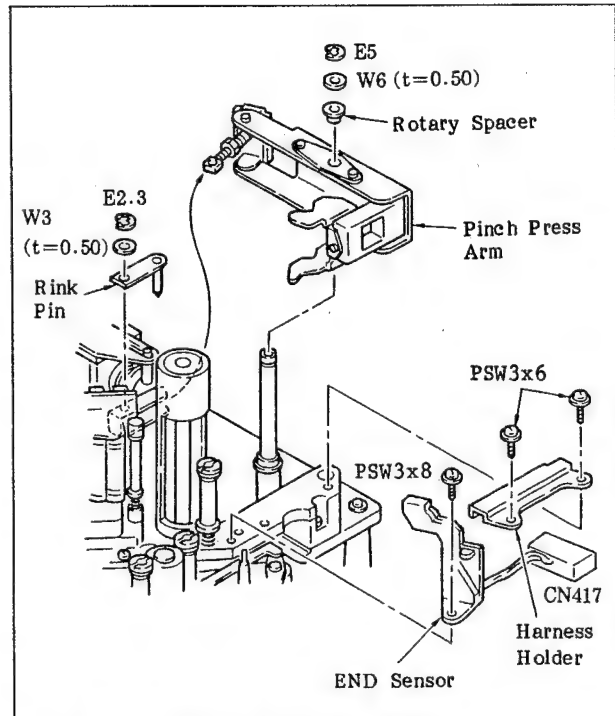
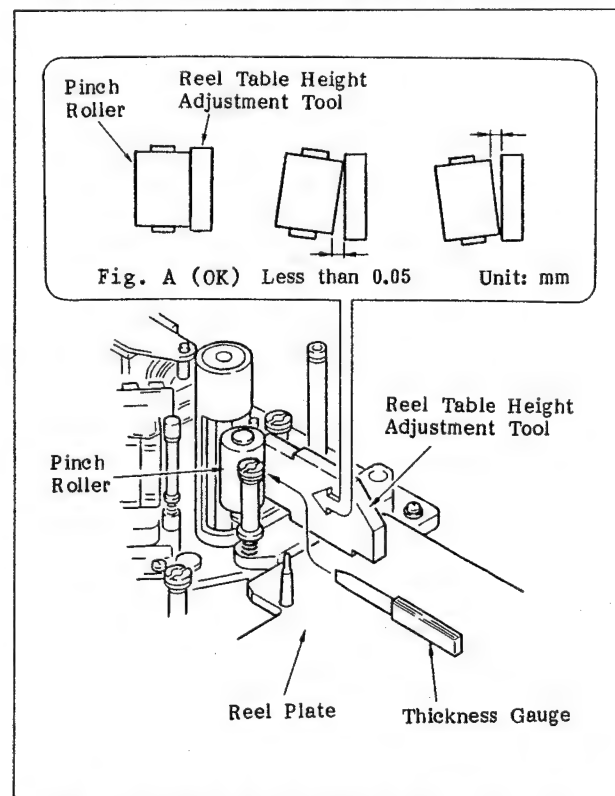

Fig. 6-93 Preparation before Making the Adjustments
Fig. 6-94 Check of the Azimuth of the Pinch Roller
- a. Remove the pinch press arm, END sensor, harness holder, and the connector (CN417) of the END sensor, by referring to Figure 6-93.
- c. Press the **F3** (C), **4**, **SET**, **F6** (F), **0**, **SET** and **>** keys on the control panel in that order to set the reel motor in the M cassette position.
- e. Press the **F6** (F), **2**, **SET** and **<** keys on the control panel in that order to set it in threading condition without loading a cassette tape.
- f. Place the reel table height adjustment tool against the pinch roller, as shown in Figure 6-94. In case there is no gap at the top nor bottom as shown in Fig. A, azimuth adjustment is unnecessary. So move on to the step 0. If there is a gap at either top or bottom, however, azimuth adjustment is required. So implement the following procedures.
- f. Set the pinch roller adjustment tool as shown in Figure 6-93.